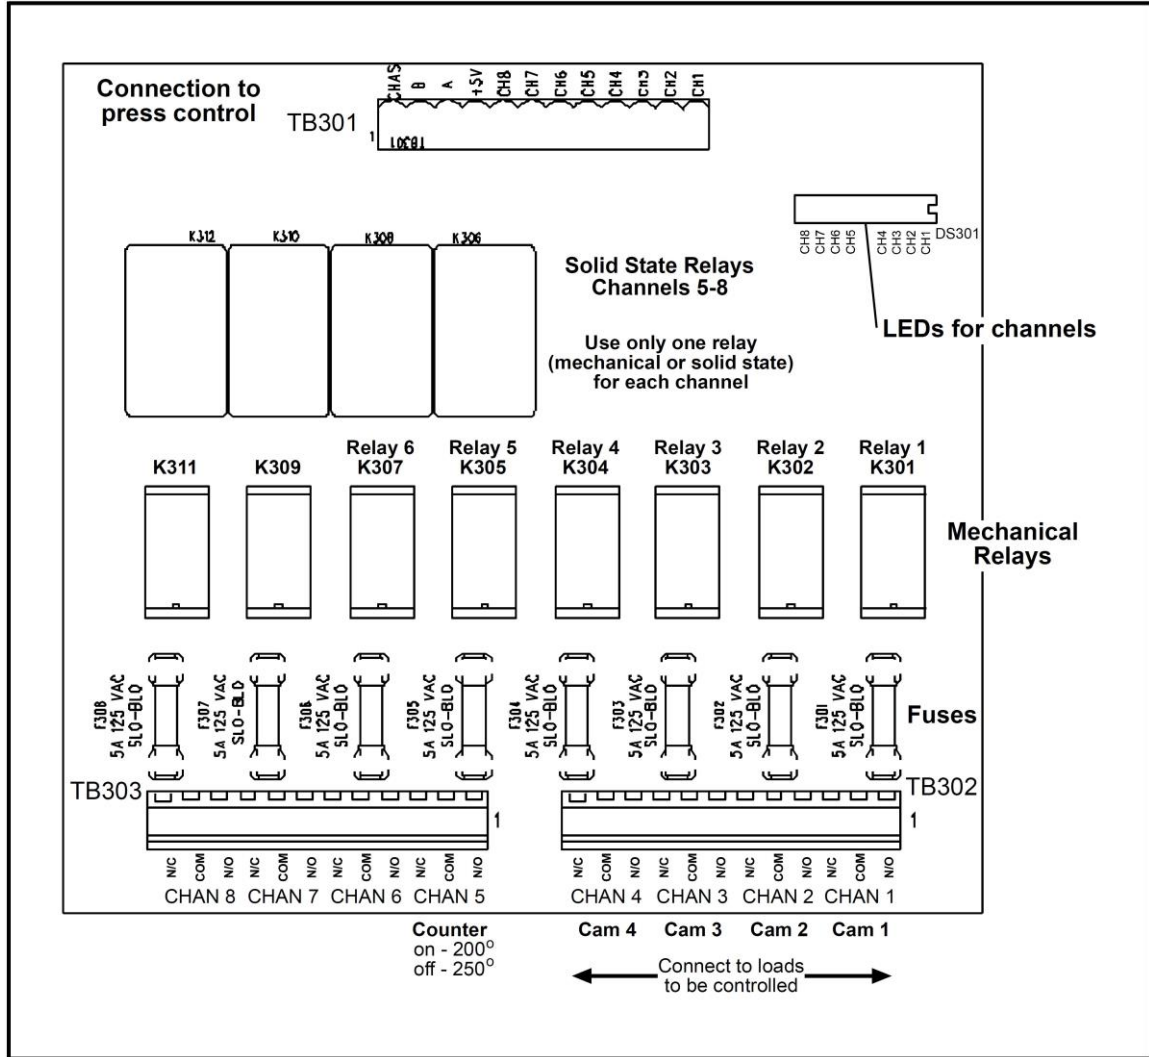

Figure 2-12. Location of components - Cam outputs assembly
- a. If you are using only *standard relays* in your programmable cam (not optional solid state relays), they are plugged into channels 1 through 8 — slots labeled K301 through K305, K307, K309, and K311 (see Figure 2-12).
- c. *Do not* plug both standard and solid state relays in the same channel locations for 5 through 8. For example, if you plug a solid state relay into channel 5 (location "K306"), you cannot plug a standard relay into location "K305." See Figure 2-12.